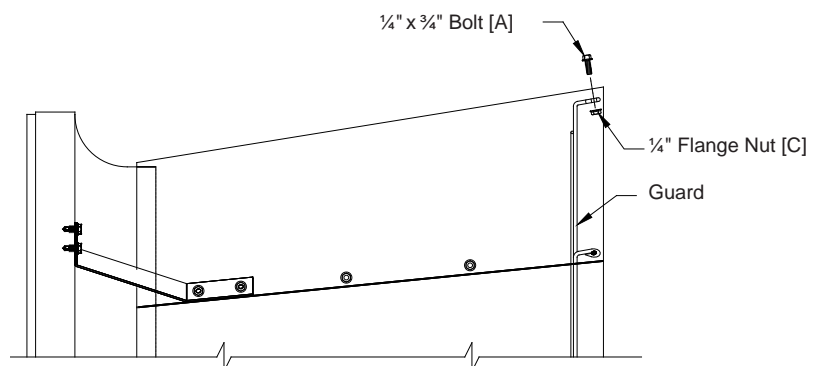

Figure 9
Insert guard into cone with the guard eyelets facing you. Make sure each eyelet lines up with a hole in the cone sections, and install with (12) Bolts [A] and Nuts[C]. See Figure 9. Assembly is now complete.